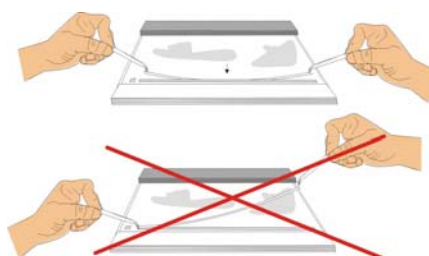

Fig. 5
12. Place the IPG-strip gel-side down, anodal side to the right, into the slot of the gel (fig. 5). Start in the middle, this prevents accumulation of buffer towards one side. Push it carefully towards the anode edge of the slot. Slide along the backing of the strip with the forceps to ensure good contact to the bottom of the slot.